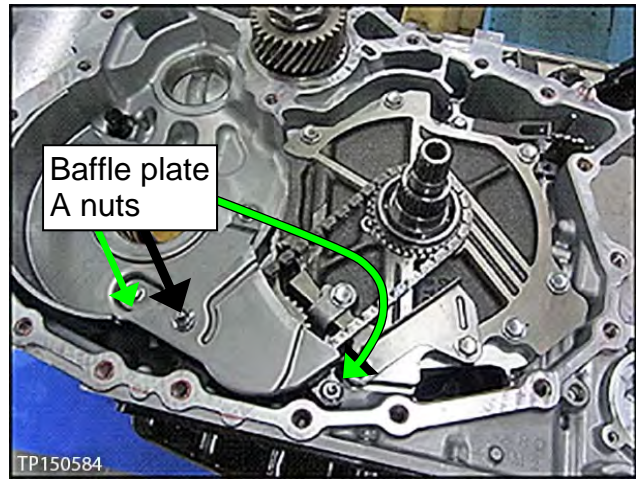

Figure 141
107. Install baffle plate A with two (2) nuts (Figure 141).